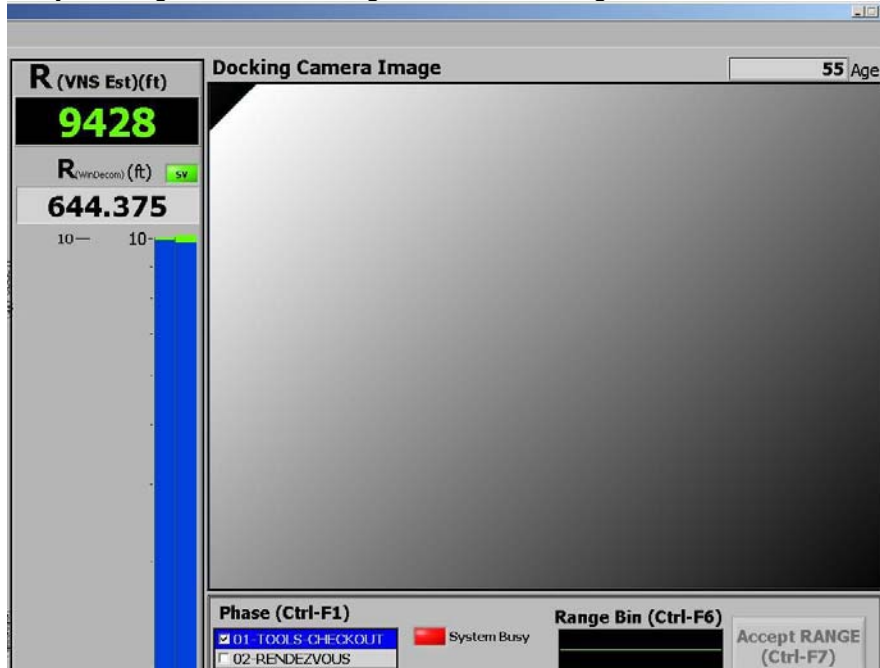

Figure 1 - Docking Camera Test Image
After initiating the DATA COLLECTION mode command, a 14 minute automated process begins. For the first 10 minutes of this process the VNS is warming up and the System Busy light will be on. Then the DC will perform a Built In Test (BIT) and go to standby. Also the VNS will become active and collect data for 2 minutes. During this 2 minutes, the DC and VNS age counters will become active (increment and reset to zero) and the DC image will appear as shown in Figure 1 below. During the last 2 minutes of this process the VNS remains active and the DC becomes active so the DC image will go live. After 14 minutes, the automatic process will shut off the VNS and DC. The images on the screen will go black until the application is commanded to IDLE.
- 17. Verify Docking Camera test image is as shown in Figure 1 below or is a live image